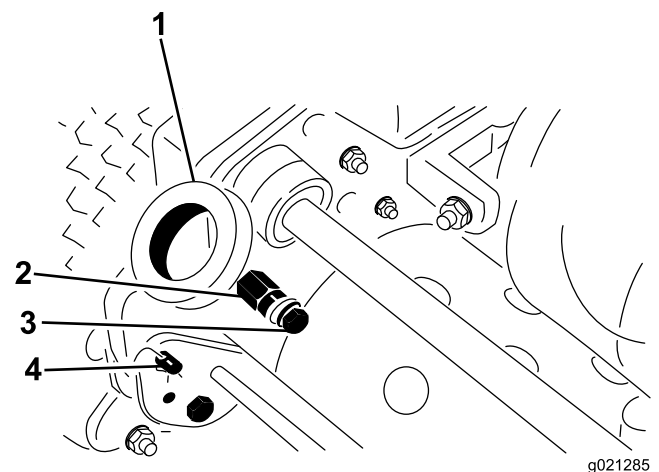

Figure 2
1. Remove the bolts, locknuts and washers securing the bottom of the handle arms to each side of the mower (Figure 2).
2. Remove the hairpin cotters and ring pins securing the handle arms to the rear of the frame (Figure 2).
3. Insert the handle ends through the holes in the handle arms and align the holes with the mounting pins (Figure 2).
1. Remove the hairpin cotters from the ring pins on each side of the mower (Figure 2).
2. While supporting the handle, remove the ring pins from each side and raise or lower the handle to the desired operating position (Figure 2).